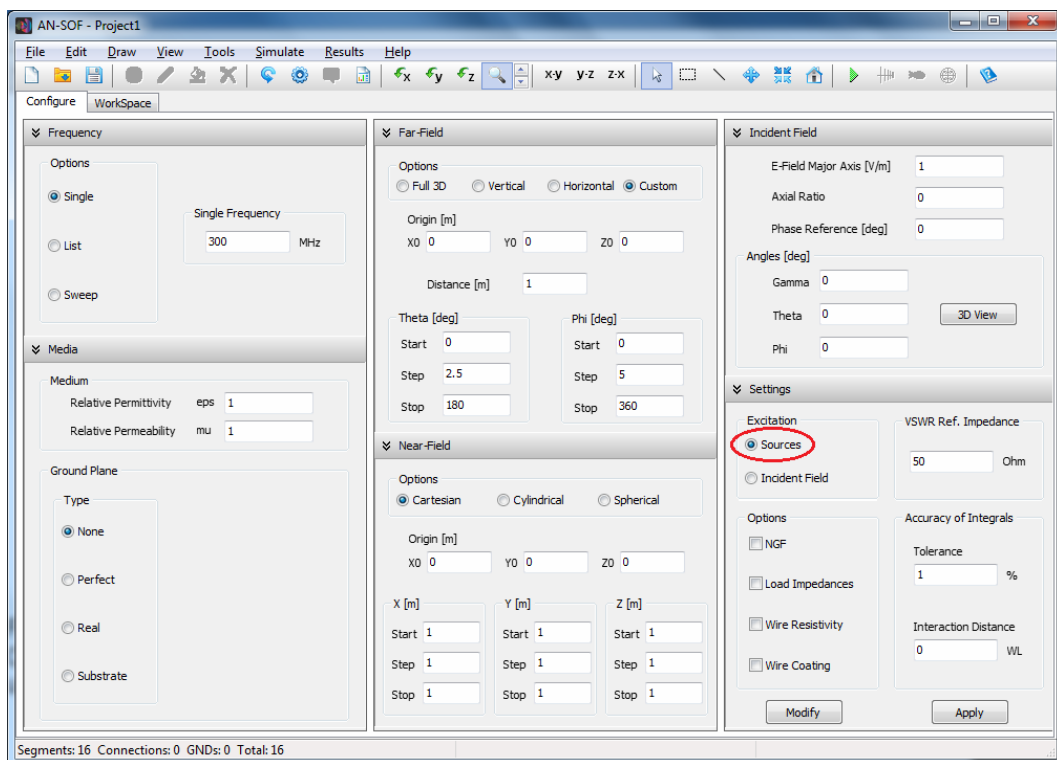

Fig. 8.2: The Sources option in the Settings panel of the Configure tabsheet must be selected when sources have to be used as the excitation.
3. The Sources option must be selected, as shown in Fig. 8.2.